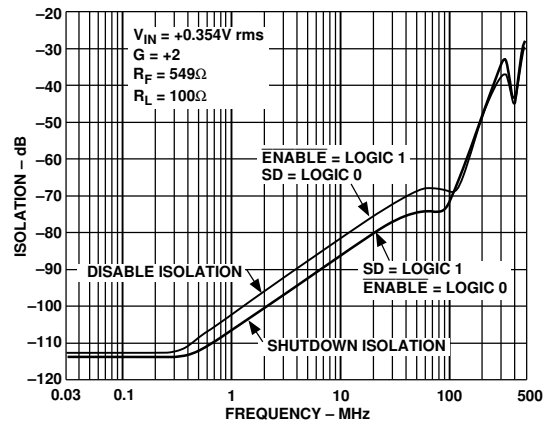

Figure 14. AD8174R Disable and Shutdown Isolation vs. Frequency
⁷AD8174 only. Shutdown (SD) pin is grounded. Mux is disabled, (i.e., $\overline{\text{ENABLE}}$ = Logic 1) and all inputs are driven simultaneously with V_{IN} = 0.354 V rms. Output is monitored at f = 5 MHz and 30 MHz; R_L = 100 Ω. In this mode, the output impedance of the disabled mux is very high (typ 10 MΩ), and the signal couples across the package; the load impedance and the feedback network determine the crosstalk. For instance, in a closed-loop gain of +1, r_{OUT} ≈ 10 MΩ, in a gain of +2 (R_F = R_G = 549 Ω), r_{OUT} = 1.1 kΩ (see Figure 14).
⁸AD8174 only. $\overline{\text{ENABLE}}$ pin is grounded. Mux is shutdown (i.e., SD = Logic 1), and all inputs are driven simultaneously with V_{IN} = 0.354 V rms. Output is monitored at f = 5 MHz and 30 MHz; R_L = 100 Ω. (see Figure 14). The mux output impedance in shutdown mode is the same as the disabled mux output impedance.